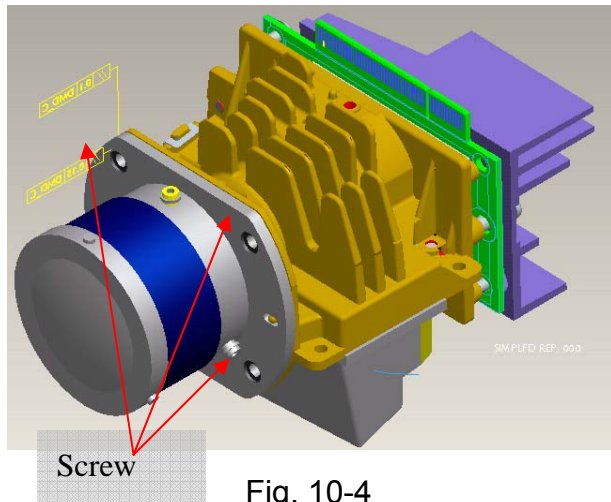

Fig. 10-4
10.4 Assemble PL Lens and fasten screw (Fig. 10-4)